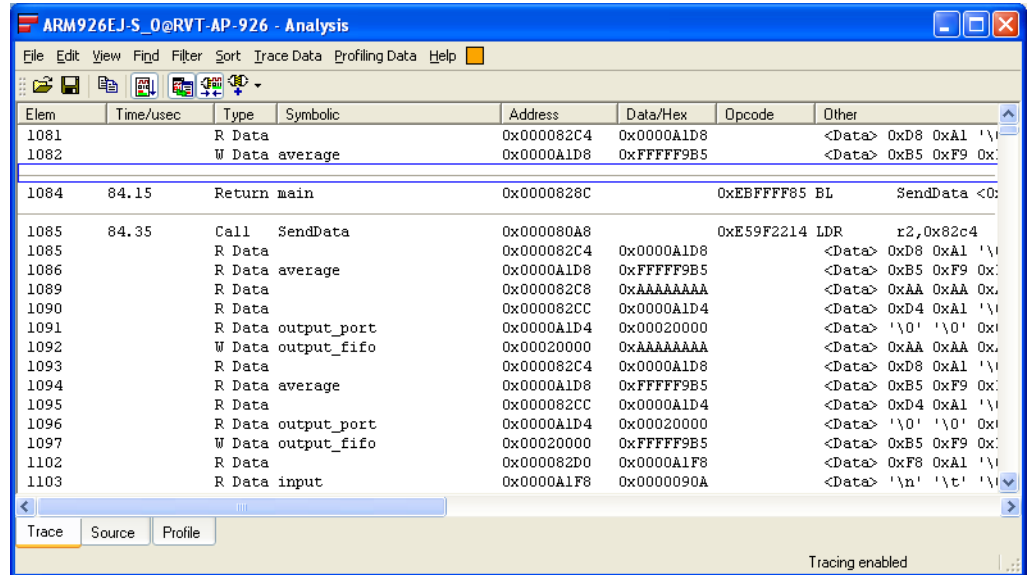

Figure 10-51 Function boundaries in the trace view
3. Select **Trace Data → Function Boundaries** from the Analysis window menu to view the function boundaries. Figure 10-51 shows an example: